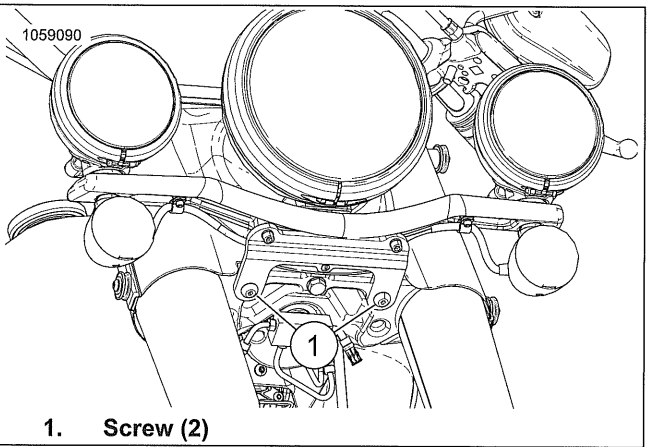

Figure 7-57. Front Light Bar
- 2. See Figure 7-57. Remove screws (1).
2. See Figure 7-57. Install screws (1). Tighten.